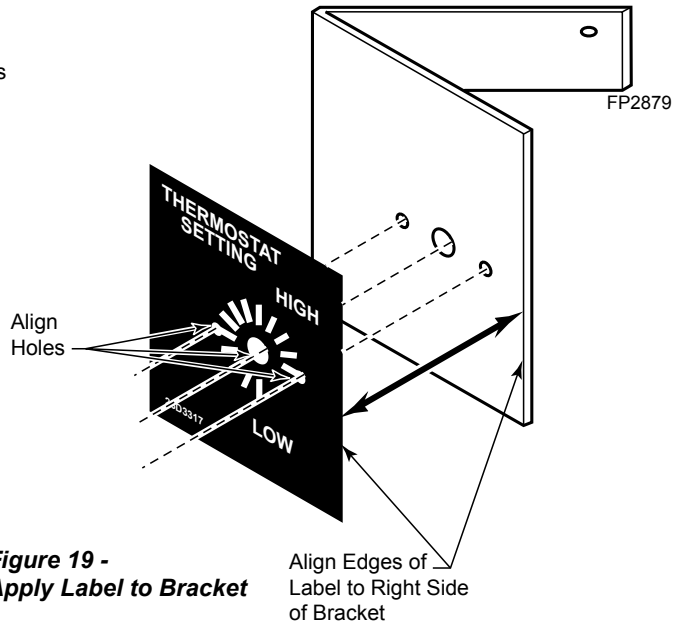

Figure 19 - Apply Label to Bracket
2. Peel away the paper backing on the label. Align holes in label with holes on the bracket. Right side of label should flush with right side of bracket. *Figure 19.* Press label firmly and smoothly to bracket.